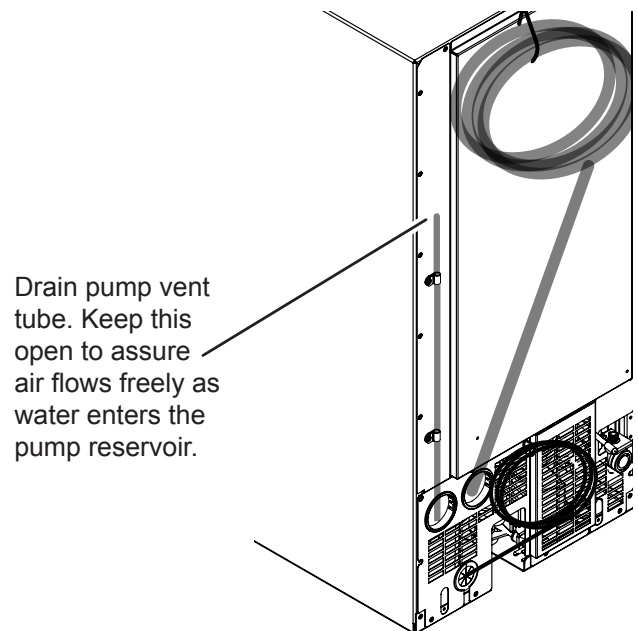

Figure 14: Location of vent tube.
- c. The vent tube on the back of the unit is open (Figure 14).